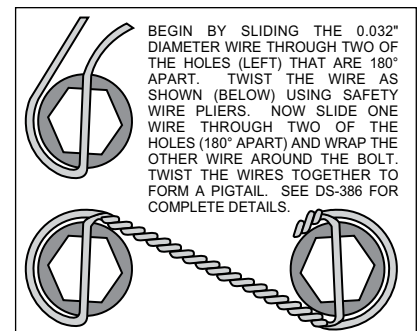

Figure 3. Safety Wire Diagram
- The caliper mount bracket assembly (1) should be installed first with clean, dry threads on the mounting bolts. Install the bracket from the rear side of the spindle by sliding the upper mounting bolt (4) through flat washer (5), and the upright into the upper bolt hole on the bracket. Attach the lower portion of the bracket by sliding bolt (6) through flat washer (7) and into the lower hole on the backside of the spindle. The bracket must tighten squarely against the inboard side of the spindle face plate/upright. Inspect for interference from casting irregularities, machining ridges, burrs, etc. If everything fits correctly, then remove the mounting bolts (4 and 6), coat threads with red *Loctite*® 271 and reinstall. Torque bolt (4) to 65 ft-lbs., and bolt (6) to 42 ft-lbs.
- Install wheel studs (8) into the hub (9). Torque to 77 ft-lb. **NOTE:** There are two lug patterns of five holes each in the hub (5 x 4.50 and 5 x 4.75). Make sure of the correct hole pattern for the wheel application before installing the studs into the hub.
- Pack the large inner bearing cone (10) with high temperature disc brake bearing grease (available from your local auto parts store) and install into the backside of the hub (9).
- Install the grease seal (11) into the backside of the hub (9).
- Pack the small outer bearing cone (17) with high temperature disc brake bearing grease and install into front side of the hub (9). Slide the hub assembly (9, 10, 11 and 17) onto the spindle. Secure using spindle washer (18), stock adjusting nut, and nut locking device. Adjust wheel bearing pre-load per Original Equipment Manufacturer (OEM) specifications.
- Install the O-ring (20) and the dust cap (19) into the hub (5). **NOTE:** O-ring (20) friction will not allow cap (19) to unscrew on its own.
- With the larger I.D. side of the rotor (12) facing away from the hat (13), bolt rotor (12) to hat (13) through the backside of the rotor using washers (14) and bolts (15). Apply red *Loctite*® 271 to the bolt threads and torque to 155 in-lb using a criss-cross pattern. For an added measure of security, the bolts may be safety wired using standard 0.032 inch diameter stainless steel safety wire as shown in Figure 3. Please refer to Wilwood's data sheet DS-386 (available at www.wilwood.com/Pdf/DataSheets/ds386.pdf) for complete safety wire installation instructions.